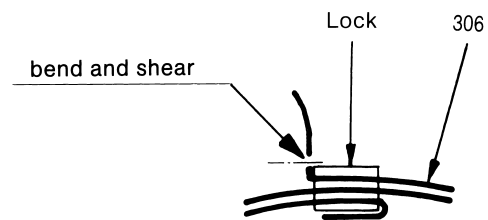

Figure 12: Bending and shearing of the joint clamp.
Note: In case of joint clamps of Hastelloy material, shearing with the clamping tool is not possible. After bending at the joint clamp lock, the joint clamp must be sheared by means of sheet metal shears and the cutting edges deburred (please refer to Figure 12 below).
- When using clamping tool PoK-It II, bend joint clamp (306) after clamping at the joint clamp lock by swinging the clamping tool so that the clamp cannot glide back through the lock. After bending at the joint clamp lock, the joint clamp must be sheared with sheet metal shears and the cutting edges deburred (please refer to Figure 12 below).
ATTENTION Check whether the joint clamp is bent so that it cannot glide back through the joint clamp lock (please refer to Figure 12 above). If this was not achieved, the joint clamp must be removed and replaced by a new one.